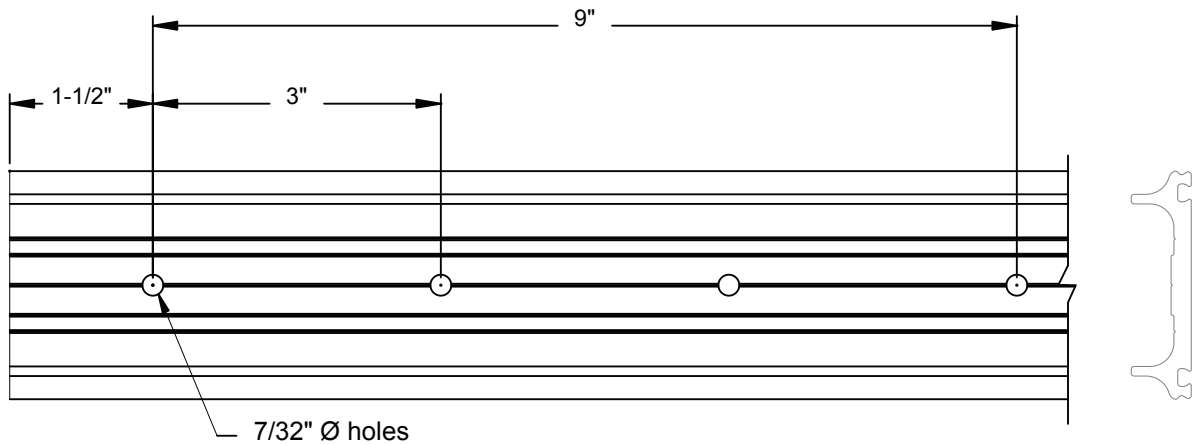

FIGURE 1
1.1 Pressure plate is pre-fabricated with  $7/32$ " holes at 3" on center. Fasteners will be installed at 9" on center and should be located at maximum 1-1/2" from ends. Additional fasteners may be required based on project specifications. If additional holes are required use a  $7/32$ " (.219) drill. (See notes below for drill bit recommendations) See FIGURE 1 Cut length of pressure plate will be mullion height for verticals and D.L.O. minus 1/4" for horizontals.